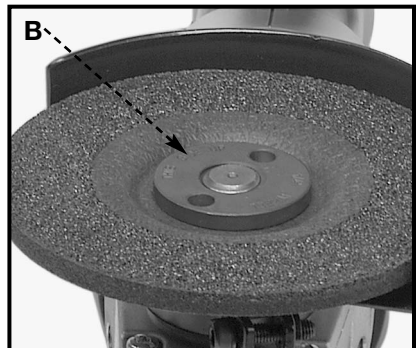

Fig. 7
**NOTE:** For **TYPE 1** wheels, and for 1/4" thick **TYPE 27** wheels, assemble with the hub side of the outer blade flange in the wheel bore (flat side of flange out, away from wheel), see (B) Fig. 7.